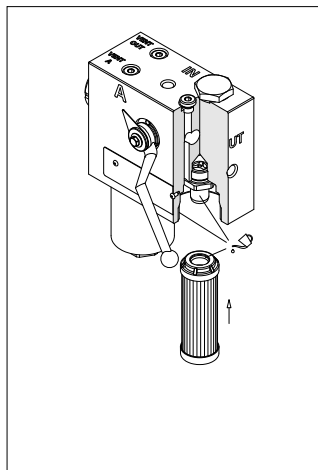

fig. 26
- (Fig. 26) Lubricate with the operating fluid the filter element O-ring, the housing tap and cavity, then fit the filter element on the tap. Pay attention not to damage the O-ring seal